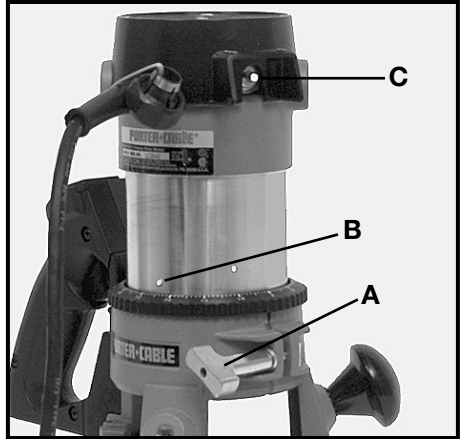

Fig. 3
2. Loosen the clamp screw (A), Fig. 3 to set the power unit in the base unit.
3. With the motor switch (C) positioned (Fig. 3), insert the motor unit into the base aligning the lower pin (B) with the groove in the base.